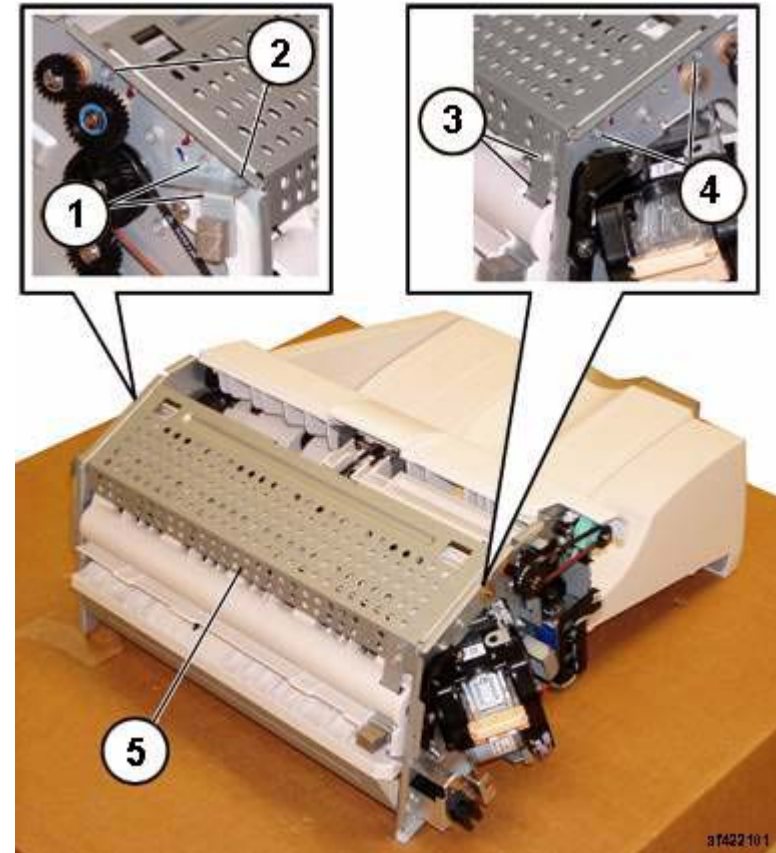

Figure 1 Removing the Upper Frame Section (af422101)
5. Remove the Upper Frame Section. (Figure 1)